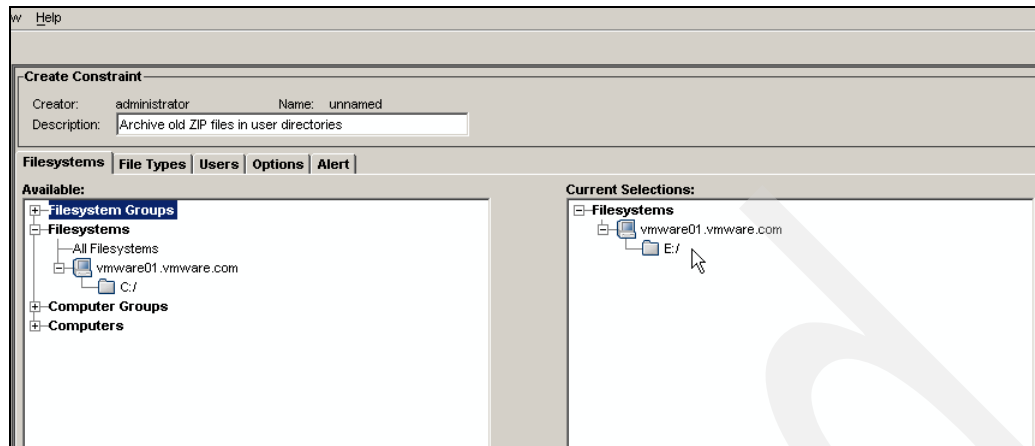

Figure 2-56 Select the filesystems
2. Select the specific machines and filesystems to which this constraint applies. In Figure 2-56 on page 55, we selected only the E: drive, because this drive is where the user profile directories exist. You can select multiple machines and filesystems on this panel.